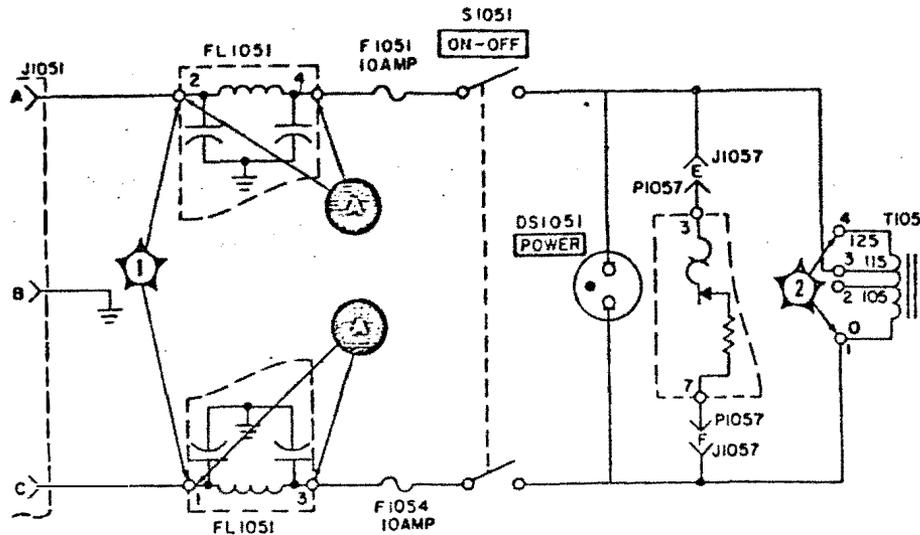

Figure 5-1. Primary Power Distribution, Schematic Diagram
a. **GENERAL.** - Figure 5-1 is a power distribution diagram of Oscillator-Power Supply O-928/FLR. When tracing the power circuit, make sure that the main power is present.